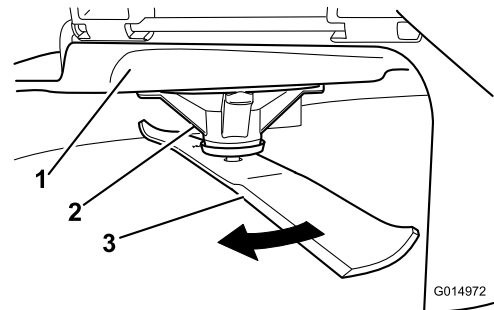

Figure 110
2. While wearing thickly padded gloves, or other adequate hand protection, slowly rotate the blade into a position that allows you to measure the distance between the cutting edge and the level surface the machine is on (Figure 110).